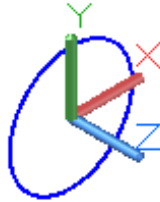

Figure Step 4
Step 4 Draw a circle, with a diameter of 1 inch. Locate its center at 0,0,0. (Figure Step 4)